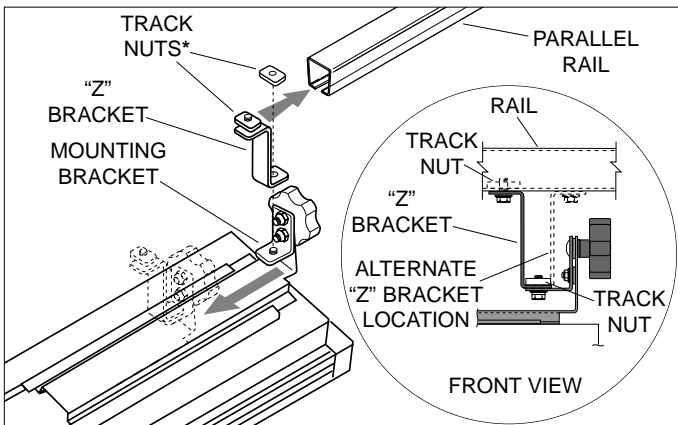

Figure 3-Bracket Detail
3. Remove track nuts from mounting brackets. Do not remove bolts or washers. Install "Z" brackets to mounting brackets (Fig. 3). Secure with track nuts and original bolts.
4. Loosen track nuts* on "Z" brackets and slide into parallel support rail (Fig. 3).